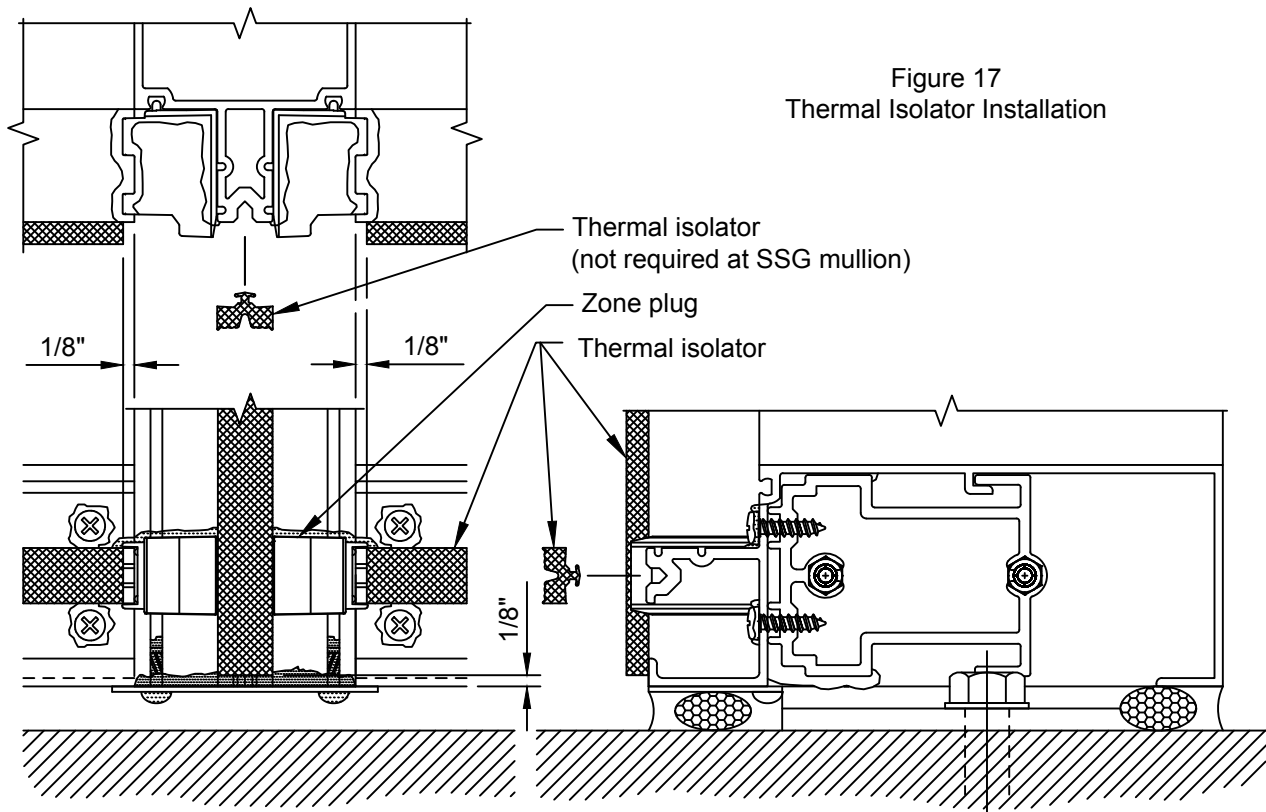

Figure 17
- 3.2 Install thermal spacer into groove on face of mullion tongues. Run through at vertical splice joints. Cut short 1/8" from each end of the mullion. SEE FIGURE 17.